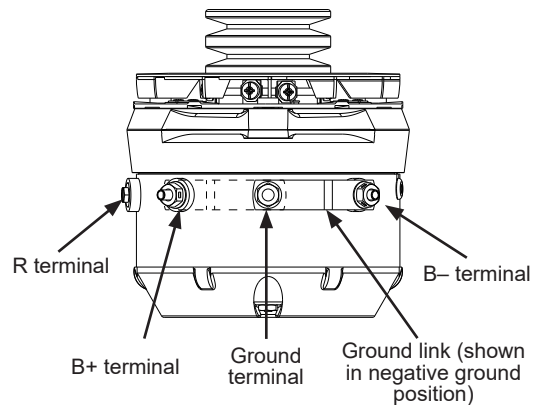

Figure 2: Install Ground Link
2. Determine ground configuration for application and install copper ground link as required. See Figure 2: